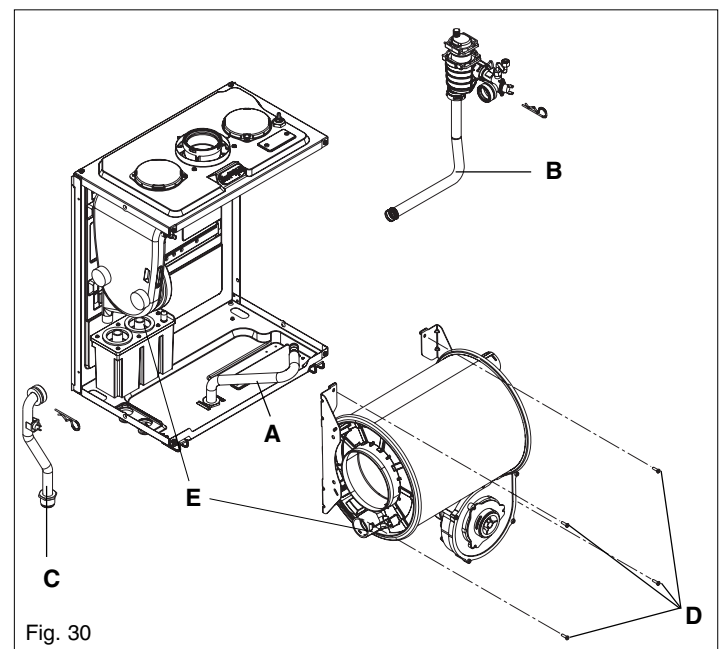

Fig. 30
6.16 MAIN HEAT EXCHANGER (fig. 30 & 31)
Fig. 30: Slacken the gas pipe (A) at the air box connection and swing/rotate of the fan assembly. Disconnect the flow (B), return (C) and condense connections on the heat exchanger. Locate and remove the 4-screws that secure the heat exchanger to the combustion chamber (D). Move the heat exchanger to the right and disconnect it from the flue collector (E). The heat exchanger can now be lifted up and withdrawn from the appliance.